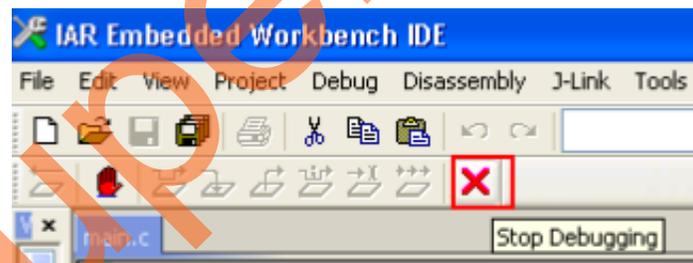

Figure 49 • IAR Workbench - Stop Debugging Option
- When debug process is finished, terminate execution of the code by choosing **Debug > Stop Debugging**, as shown in Figure 49.